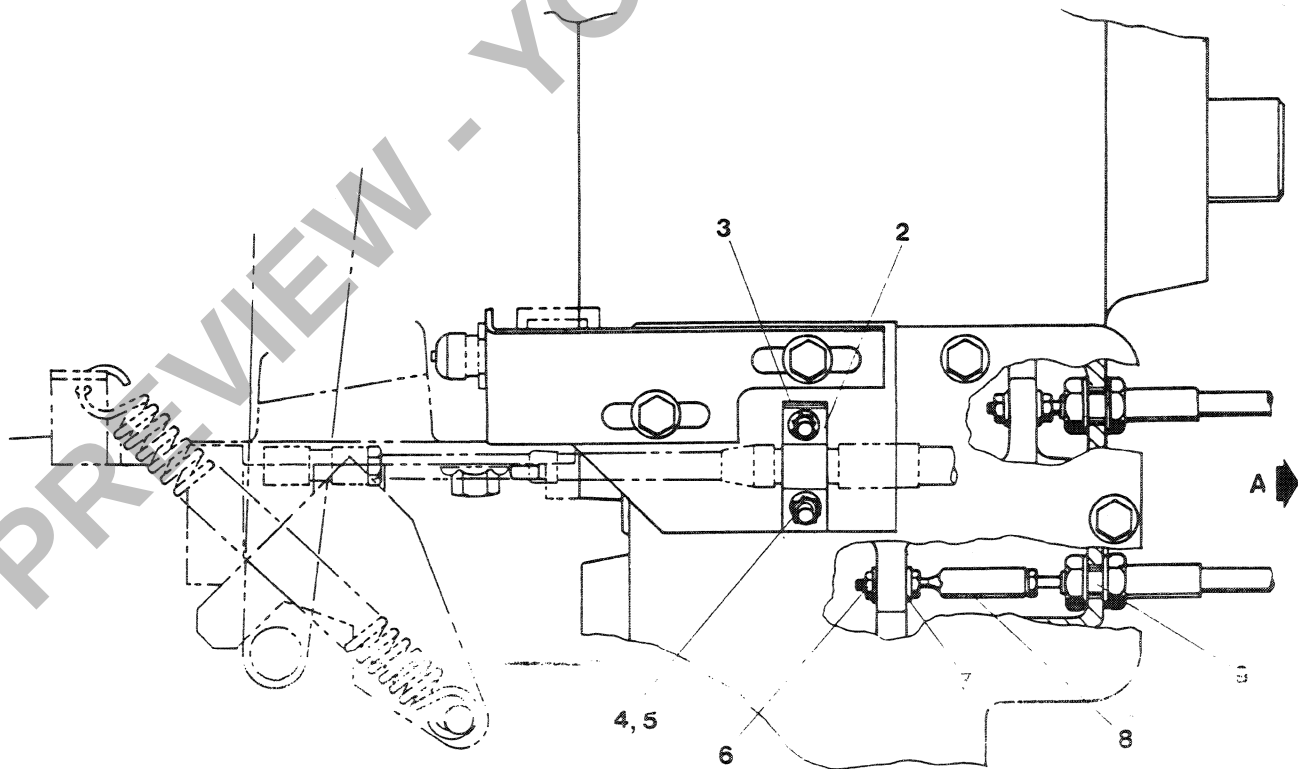

FIGURE 3-7
7. Disconnect the control cables inside the transfer gearbox by removing nuts, 6, at the forks and then remove the inner jam nuts, 9, on the cables, Figure 3-7. Remove extension, 8.